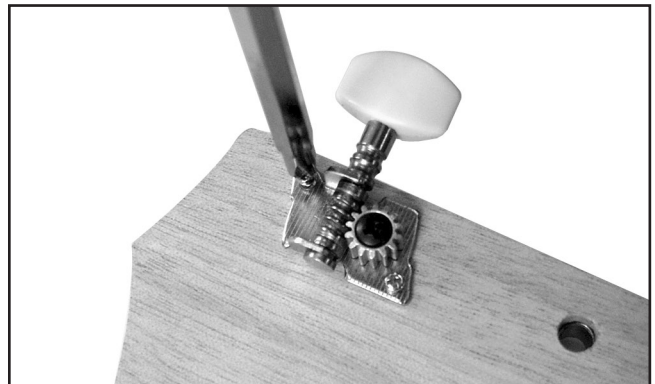

Figure 20. Securing tuning machine with screws.
4. Secure the tuning machine to the headstock with two screws, as shown in **Figure 20**.